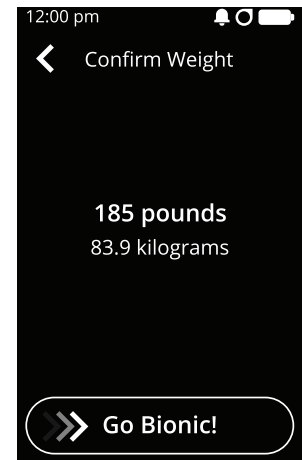

Figure 71
- b. Confirm the body weight you entered is correct, and then drag the **Go Bionic!** slider to the right (see Figure 71).